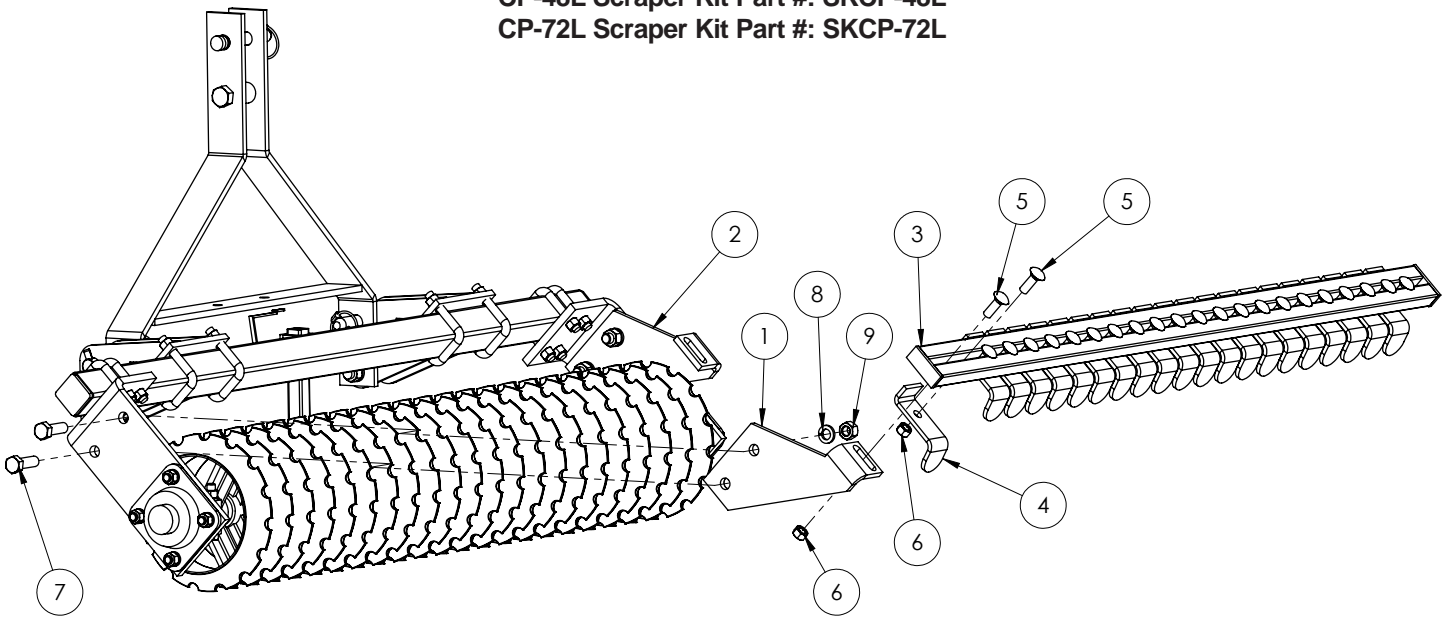

Figure 16.
1. Attach the Scraper Bar Mounts shown in Figure 16. (Ref. 1, Left Hand and Ref. 2, Right Hand) to the inside face of the roller hangers using 4 Hex Bolts, 5/8" x 2" (Ref. 7), Lock Washers, 5/8" (Ref. 8) and Hex Nuts, 5/8" (Ref. 9) provided with the scraper kit.